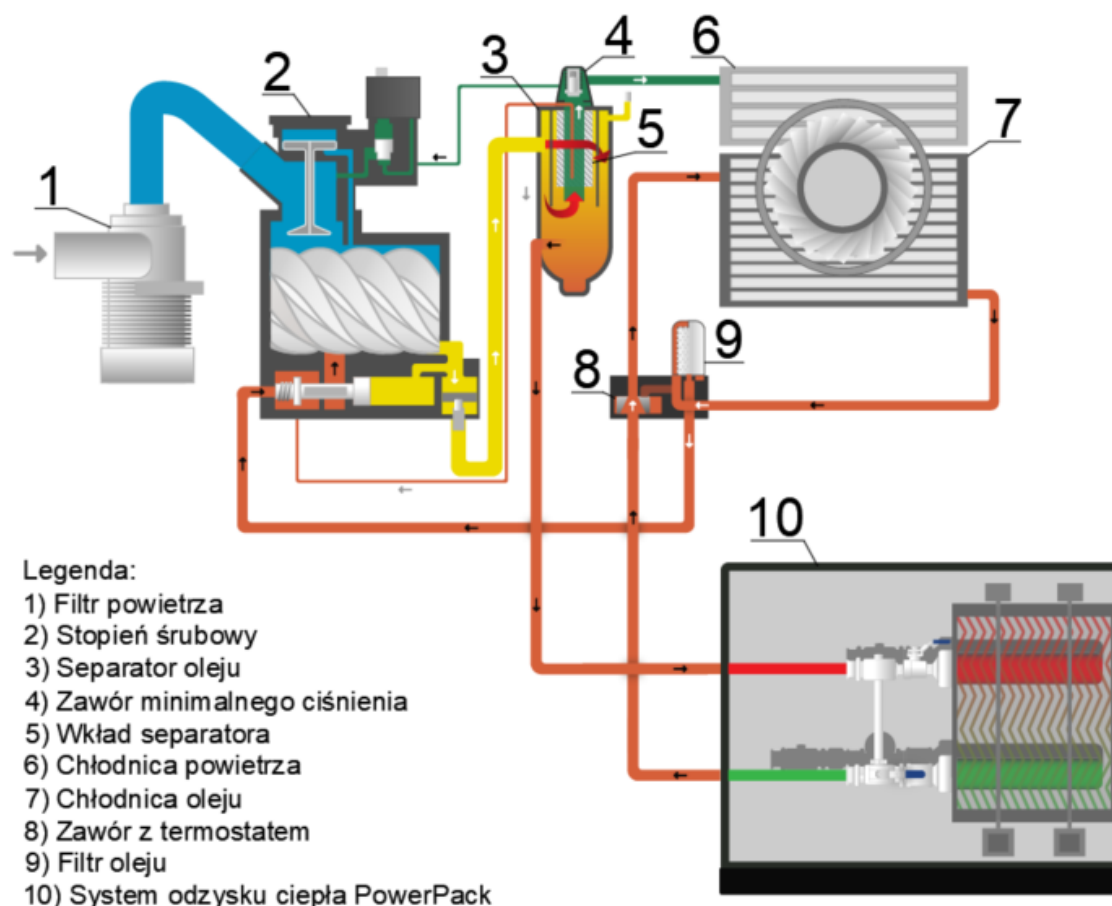

Figure 2. Process diagram for compressor with PowerPack heat recovery system.
Figure 2 shows the process diagram with the PowerPack heat recovery system. The compressor principle remains the same as in the previous diagram. A significant change is the direct connection of the PowerPack with the oil separator (3) and the valve with thermostat (8). Plugging the PowerPack in at the locations shown in the diagram will allow the temperature of the oil returning to the valve (8) to be read. Heat energy is extracted from the oil in a heat exchanger inside the PowerPack. A variable-speed water circulation pump adjusts to the temperature of the returning oil at valve (8). The purpose of the PowerPack is to extract as much heat energy as possible from the oil, while preventing it from overcooling or being diverted to the oil cooler (7). It is then possible to claim complete heat extraction from the oil.